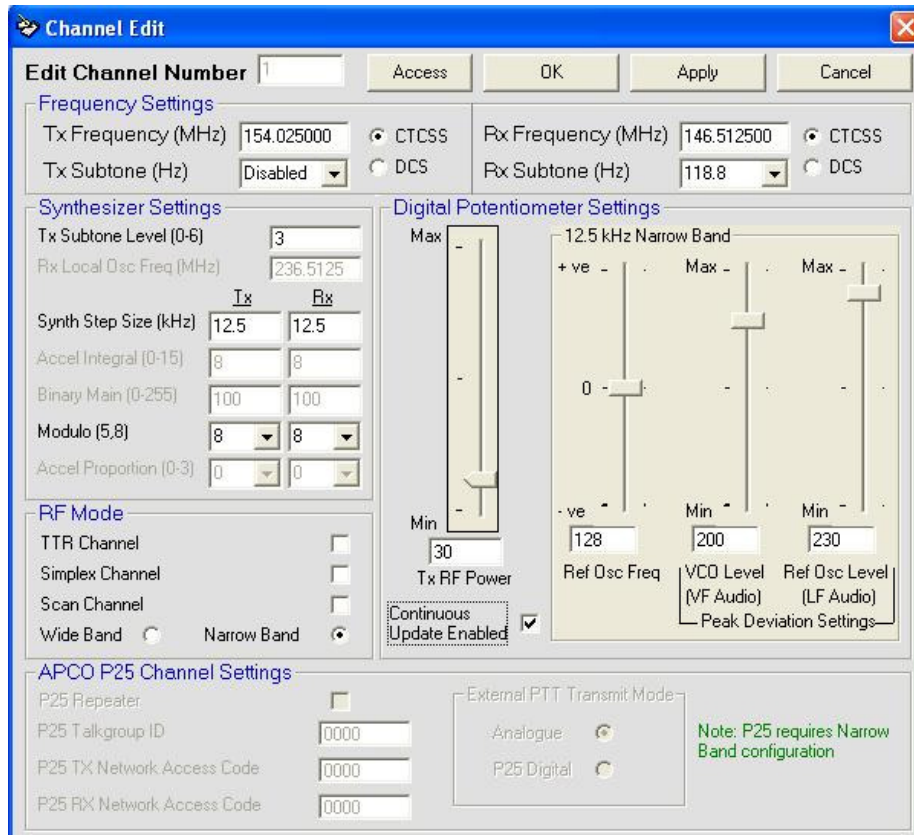

Figure 10. MXTools – Channel Edit page.
14.3. On the MXTools “Channel Edit” page (see **Figure 10** overleaf), adjust the various settings as per **Table 5** below.